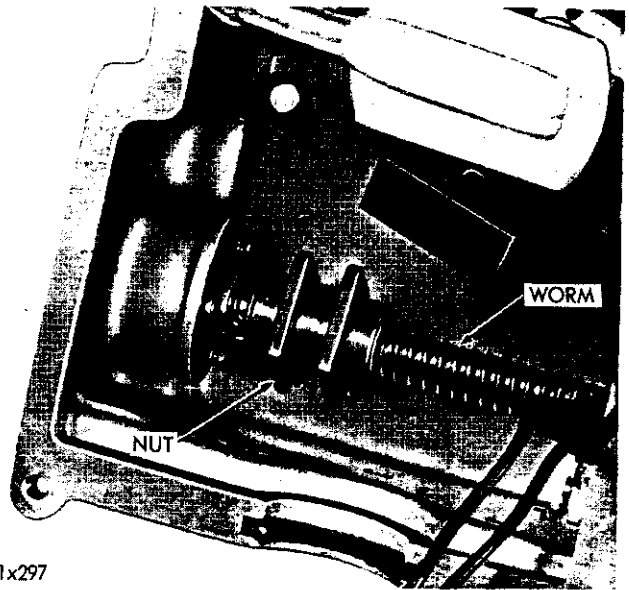

Fig. 51—Drive Worm and Nut Assembly
(2) Lubricate the drive worm and nut assembly with MoPar Lubriplate and install the assembly in in the motor end of the housing (Fig. 51). Install the serial number plate. Attach the plate and drive screw assembly with the three screws. Do not over-tighten the screws.